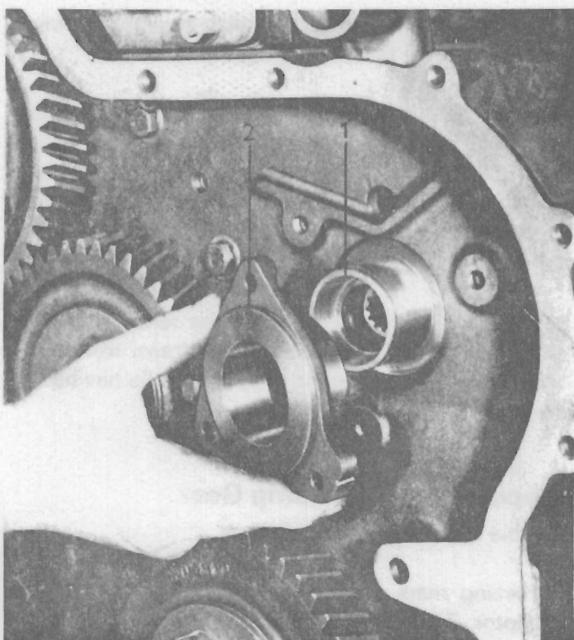

Fig. J.7.
4. The fuel pump drive may now be removed from the hub, which may also be withdrawn from the carrier by hand, once the retaining circlip has been removed, See Fig. J.7.